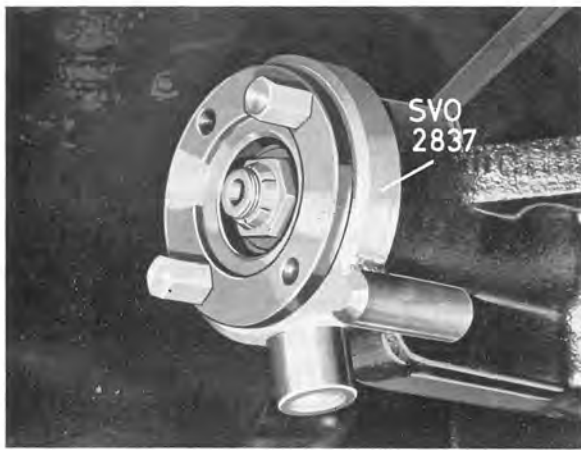

Fig. 4-141. Counterhold for flange
2. Remove the nut for the flange. Use for this purpose tool 2837, see Fig. 4-141. Pull the flange off with puller 2261, see Fig. 4-142. Pull out the old oil seal with puller 4030.
7. Turn the final drive and let the oil run out into a container. Use tool 2837 as a counterhold for this purpose, see Fig. 4-141. Pull off the flange with puller 2261, see Fig. 4-142. Press out the pinion.